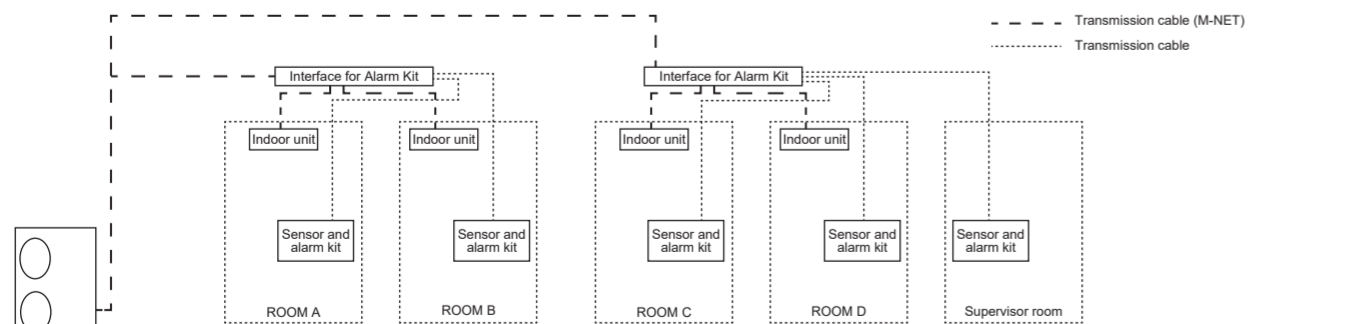

Fig. 5-3
- When using multiple Power Supply Interfaces for Alarm Kit, the indoor unit and the Sensor and alarm kit installed in the same room shall be connected to the same Power Supply Interface for Alarm Kit. (See Fig. 5-3.)